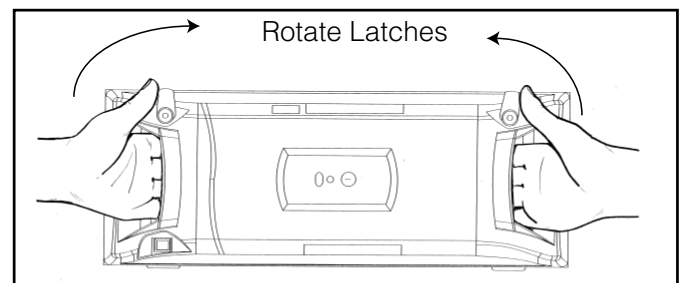

Figure 27
4. Rotate the two latches and remove the door as shown in Figure 27. Place the door in a secure location.